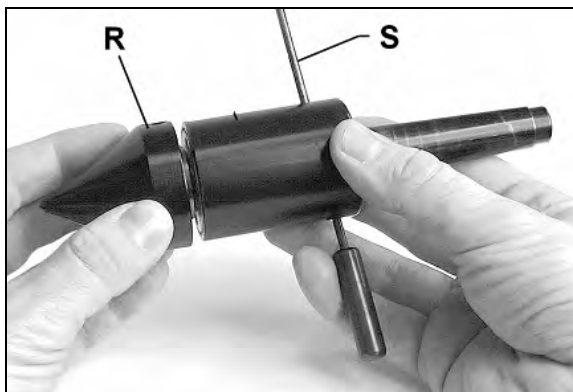

Fig 35
To screw off the cone (R, Fig 35) the life center must be locked against rotation with the supplied pin (S).